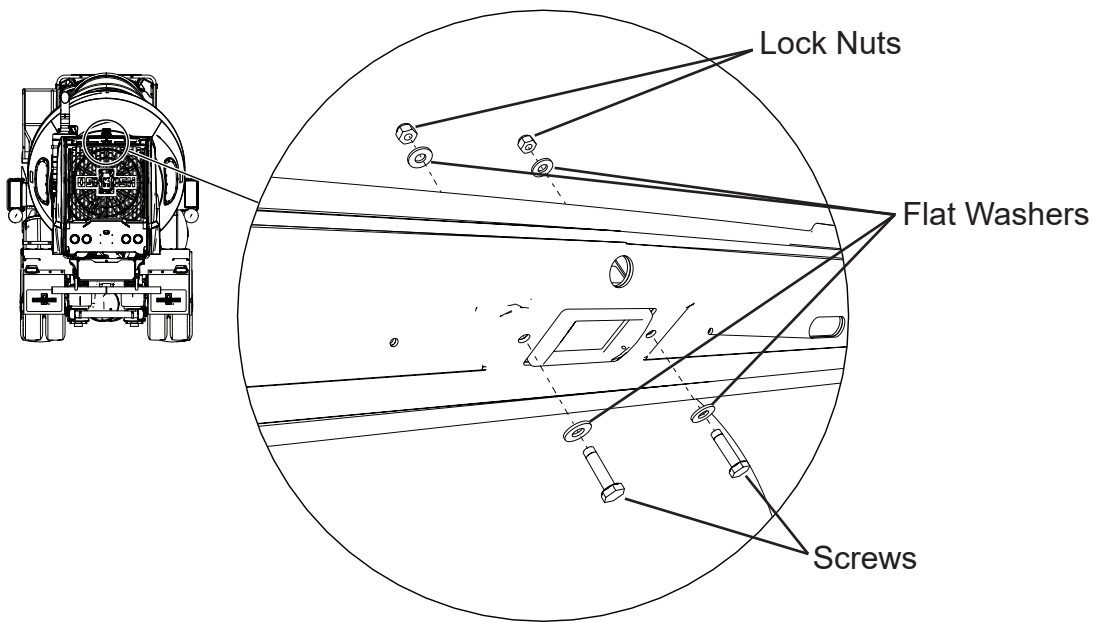

Figure 1
4. Loosen and remove the screws, flat washers and lock nuts securing the camera and bracket to the hood hatch, see Figure 1. Remove the camera and bracket from the hood hatch, the camera and bracket will not be reused.